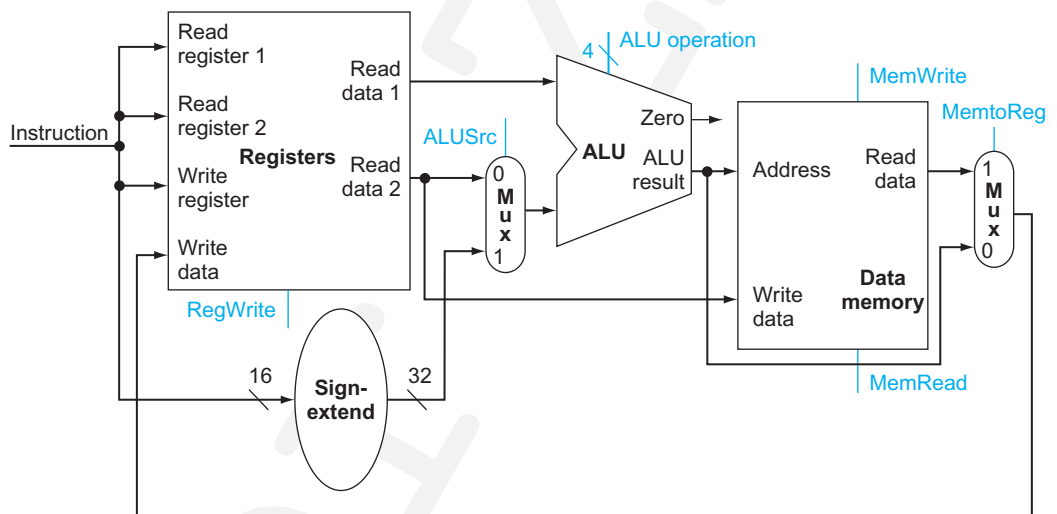

Figure 4.10 The datapath for the memory instructions and the R-type instructions.
1. What are the values of control signals generated by the control in Figure 4.10 for this instruction?